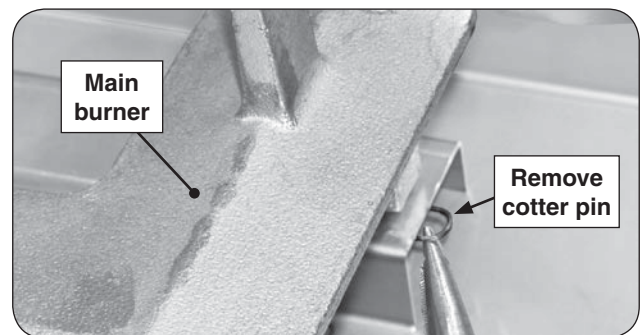

Fig. 35-2 Main burner removal
2. Locate and remove the cotter pin from the left or right rear burner anchoring peg by pulling it straight out of the cotter pin hole using fingers or needle-nose pliers. See Fig. 35-2.